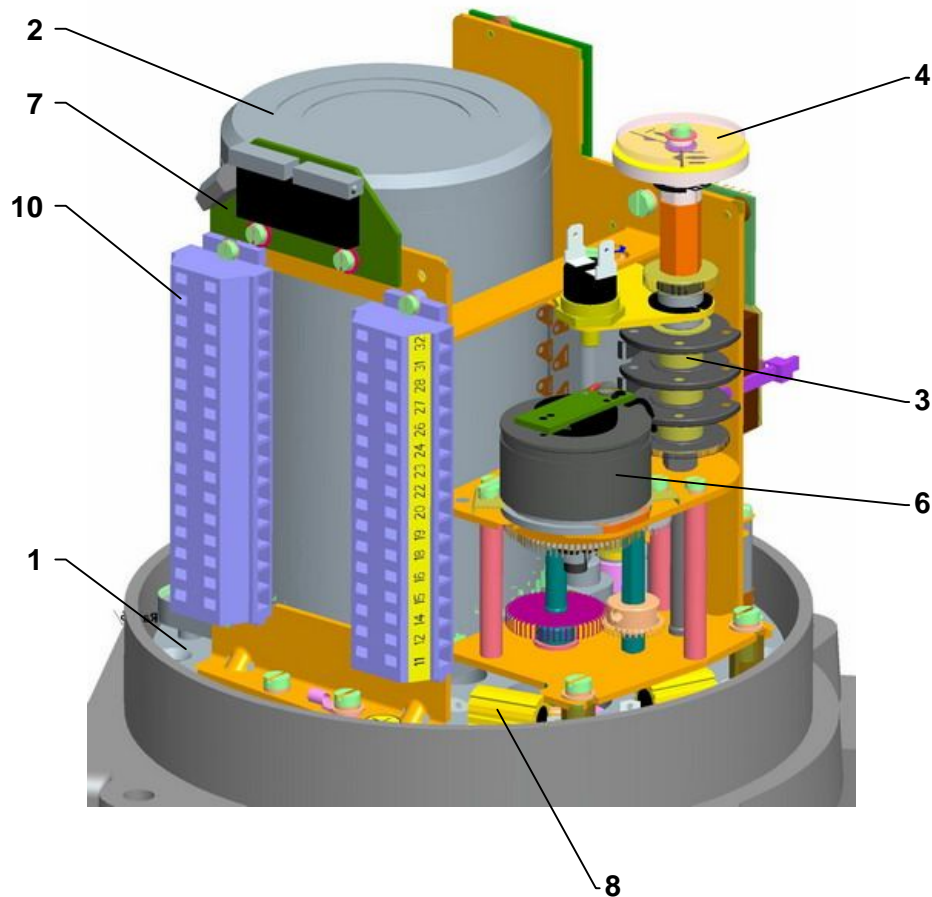

Fig.1
The **control part (Fig. 1, 1a, 1b, 1c)** is placed on a control board (1) consisting of:
- electric motor (2) (at single-phase version with capacitor)
- torque unit (5) (controlled with a worm axial shift)
- position-signaling unit (3) with a position transmitter (6) - resistive, capacitive or electronic position transmitter (7) and with a mechanical local position indicator (4)
- space heater (8) with thermal switch
- electronic module (9)
- electrical connection through terminals (10), located in the control area and cable glands resp. connector with cable glands